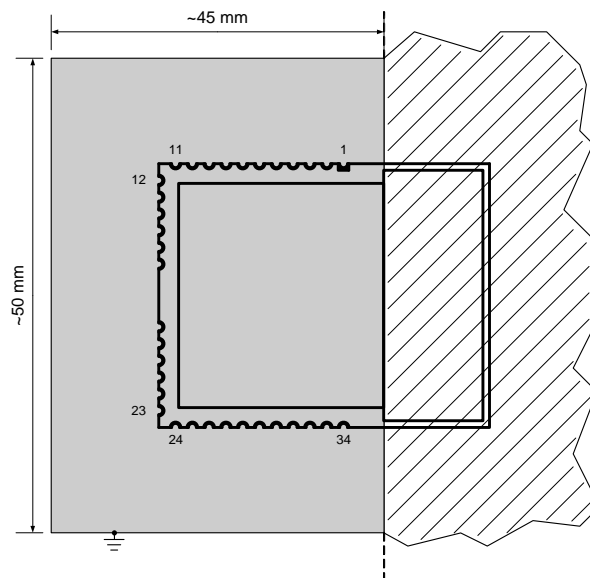

Figure 4-2: Recommended Environment
- As shown in Figure 4-2, the solid grey area must be a ground-plane on the Bottom Layer (or Layer 2 in a multi-layer structure) of the carrier board. Antenna matching and all other measurements were done with these dimensions.
- The hatched area shown in Figure 4-2 has to be free of material (e.g. PCB, metal, housing). If possible, the distance from the antenna area to any material should be at least $\lambda/2$ ^{see 3}.
| Figure 4-2: Recommended Environment..... | 15 |